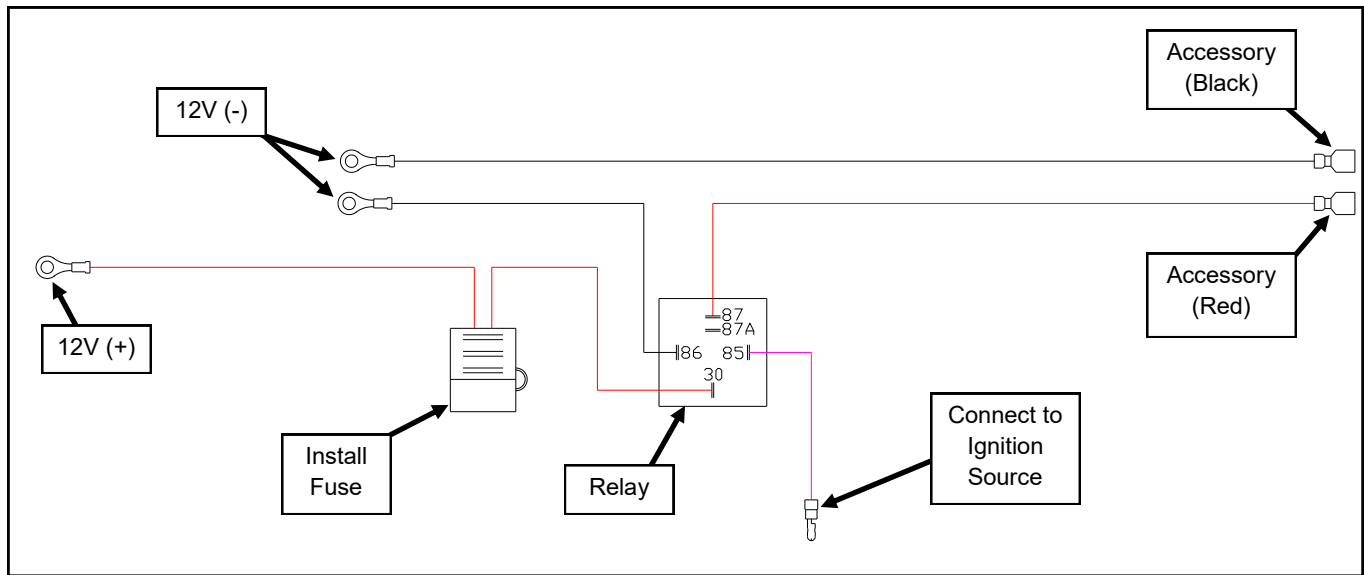

Fig. 2
2. Per figure 2, connect the ring terminal on the red wire at the fuse end of the harness to the positive terminal on the battery.
6. Per figure 2, connect the female push-on connectors found on the accessory's wiring harness (red & black) to the male push-on connectors on this harness.
7. Per figure 2, install the fuse supplied with the accessory into the fuse holder and check the operation of the switch.